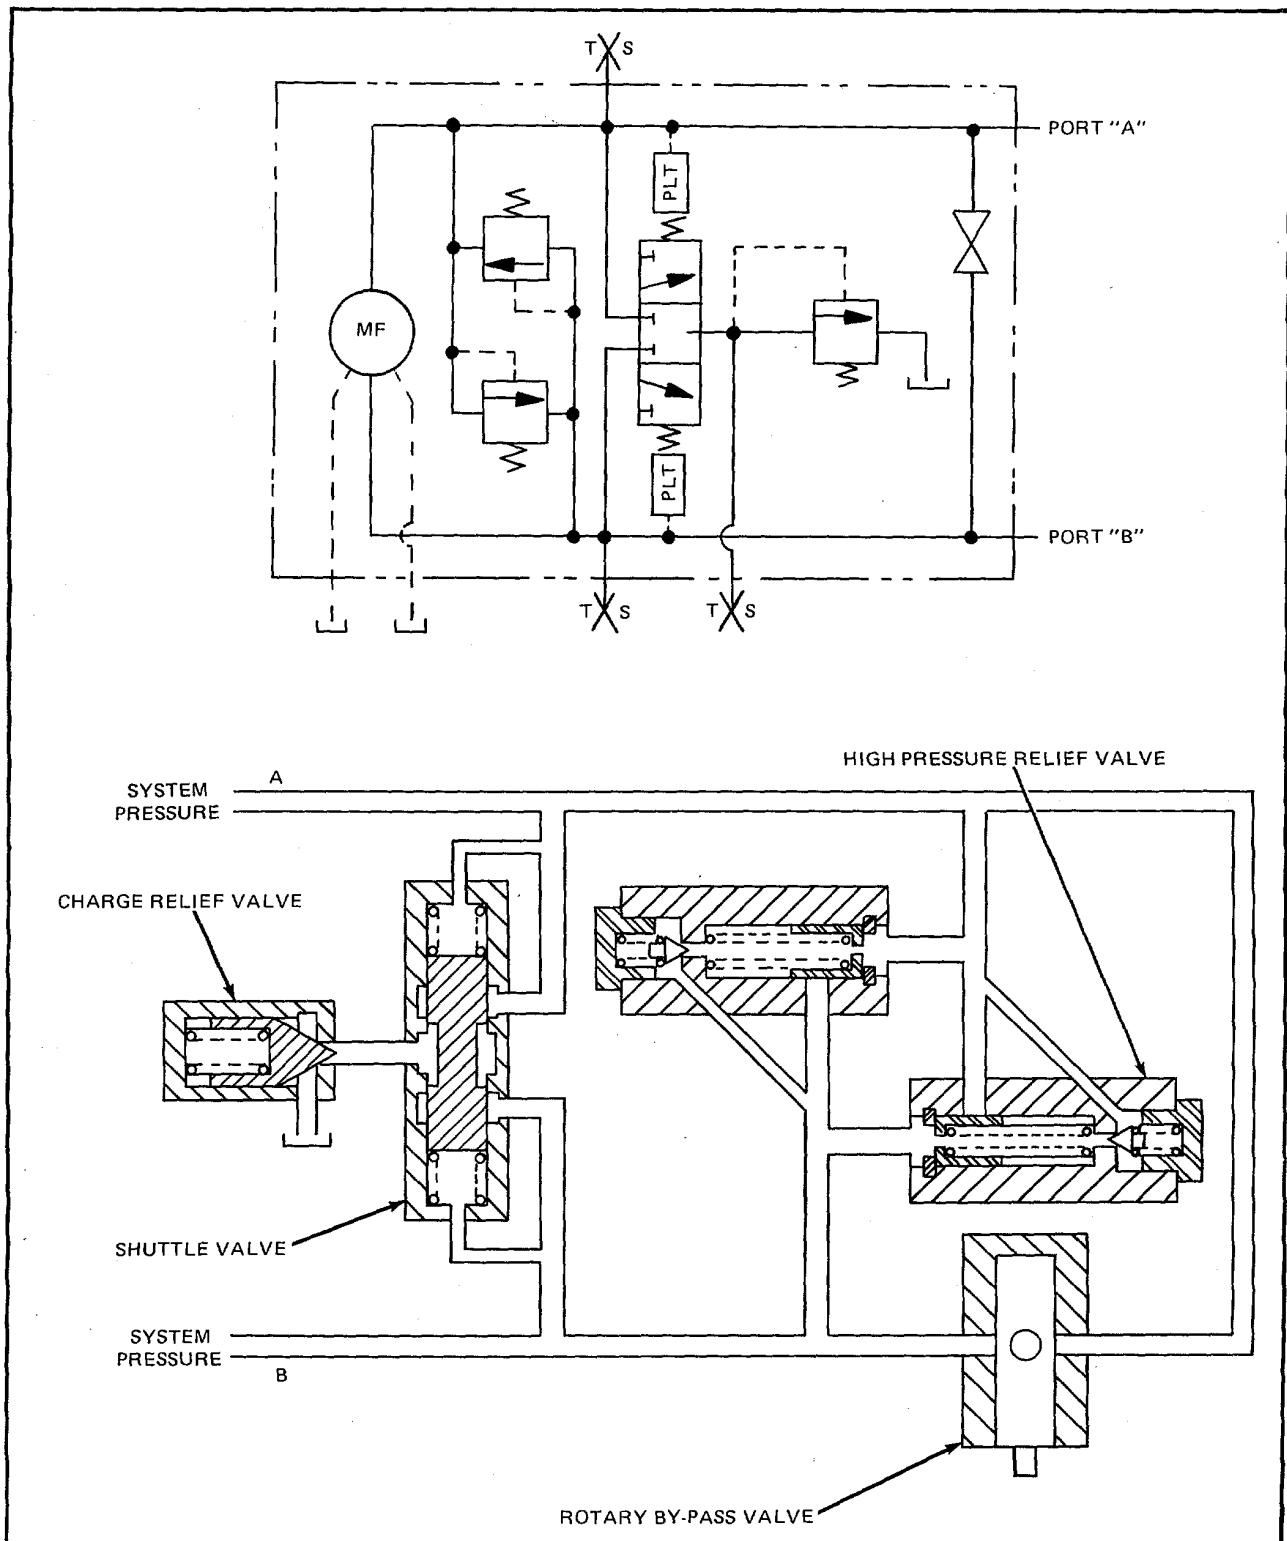

Figure 4. Rotary Bypass Valve
The rotary bypass valve assembly is a two-way valve (refer to Fig. 4). In the closed position, the valve is blocked and has no function to the system. In the open position, the valve ports fluid from side (A) of the closed loop to side (B) or vice versa.